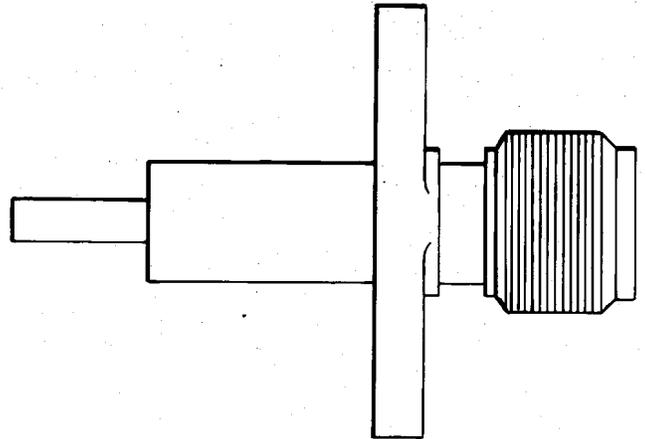

Fig. 1—KS-20265, L1 Connector
- (a) **KS-20265, L1:** The KS-20265, L1, (Fig. 1) is arranged for center contact connection on the terminating end. The mounting flange for the L1 is approximately 1/2-inch square.